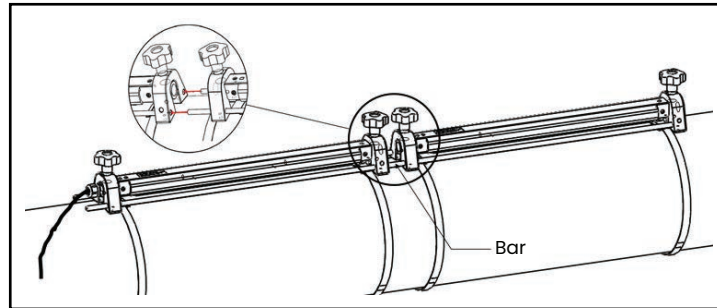

Figure 15: Two traverse installation with two clamp-on fixtures
2. Hold one of the clamp-on fixtures, with two transducers and one cable, against the pipe between the upstream pair of straps and move the two mounting straps onto the fixture (see figure 15 below). Then, tighten the screws on the mounting straps, and verify that the straps remain in place on the fixture.